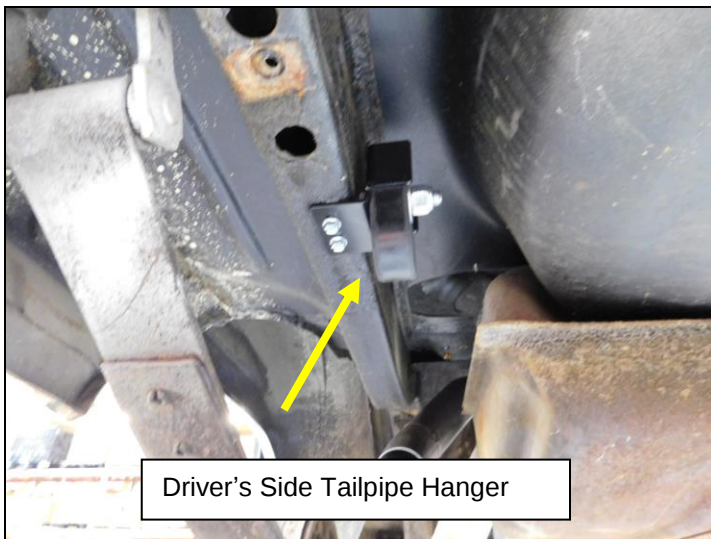

Figure 6
6. Measure from the front edge of the hole in the frame rail to 2-1/4" as shown in (Figure 4) below and mark the location. Measure 3-1/8" out from the leading edge of the hole and mark that location. Place the hanger bracket over the marks and align the bracket slots with the reference marks centered in the slot. The bracket faces up with the bolt head against the frame rail (Figure 6). Trace the slots in the bracket with a sharp awl or scribe onto the frame rail (Figure 5). Make sure the 1/2" bolt head is tight against the frame rail during this process
10. Use the supplied 1/4-20 thread cutter bolts and anchor the tailpipe hanger bracket to the frame rail as shown in (Figures 6 & 7). An impact driver can be used to start the thread cutter, but **DO NOT** tighten the bolts with an impact driver. Apply Loctite® to the threads of the bolt and tighten by hand to approximately 20ft./lbs.